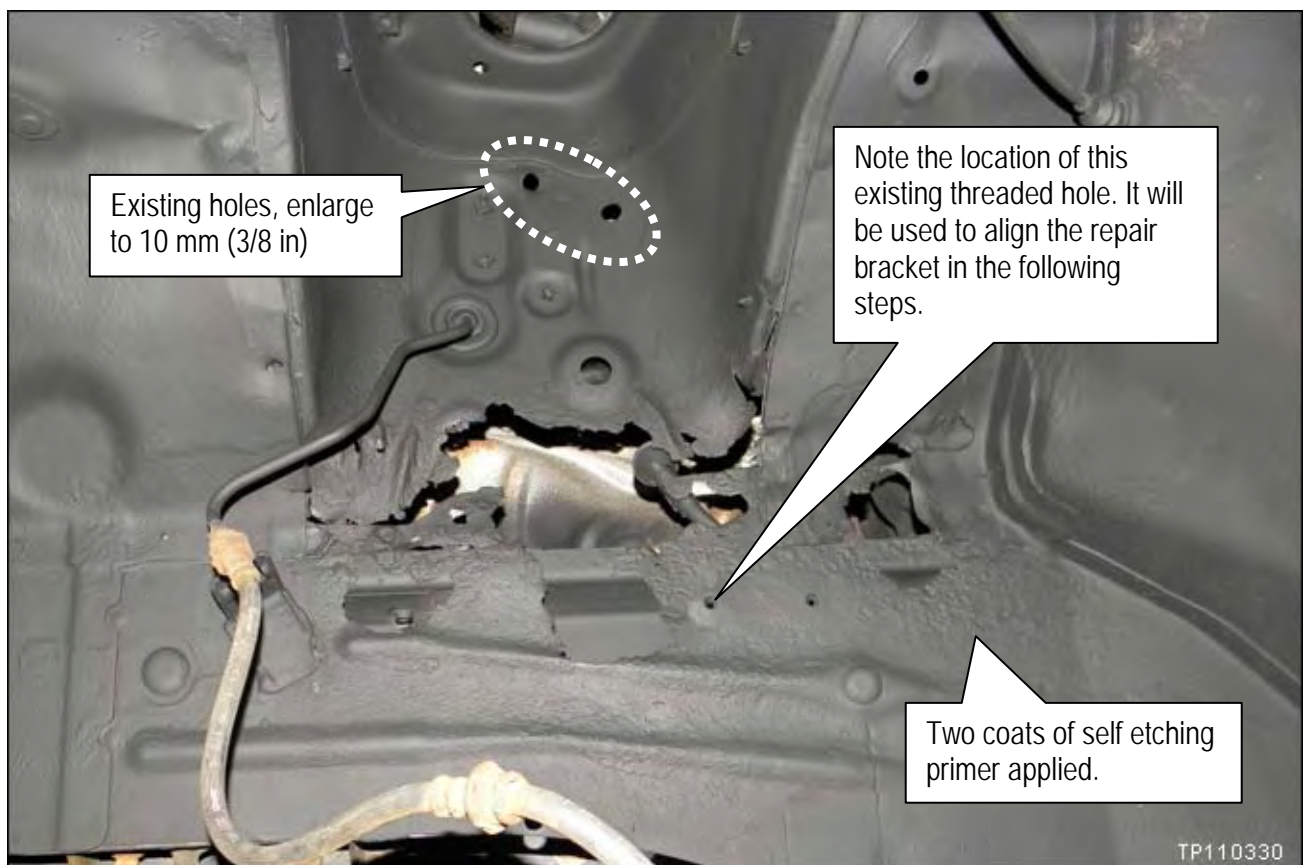

Figure RB7
11. Completely and liberally coat the strut housing and wheel house area with self etching primer (see Figure RB7).
12. Locate the two existing holes at the upper area of the strut housing panel (see Figure RB7).